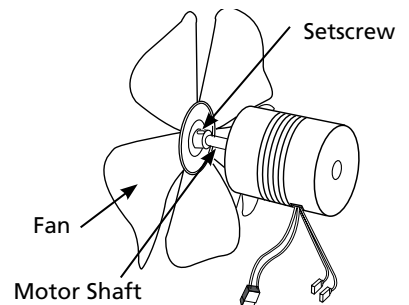

Figure 6 – Fan Motor Shaft and Setscrew Location
6. Remove fan setscrew using a 1/8" (3.2 mm) Allen wrench (see Figure 6).